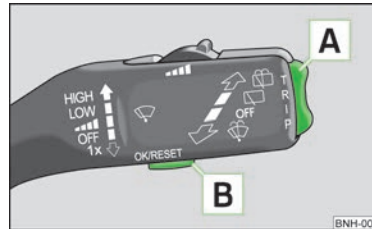

Fig. 5
Button **B** » Fig. 5 on page 12 is used to switch the memory.
The rocker switch **A** » Fig. 5 and the button **B** are located on the windscreen wiper lever.
- Press the button **B** » Fig. 5.
- Briefly press the rocker switch **A** » Fig. 5 up or down. This opens the individual functions of the multifunction display one after the other.
- Press the button **B** » Fig. 5 for longer.
If the outside temperature drops below +4 °C, a snow flake symbol (warning signal for ice on the road) appears before the temperature indicator and an audible signal will sound. After pressing the rocker switch **A** » Fig. 5 on page 12, the function which was shown last is indicated.
The driving time which has elapsed since the memory was last erased, appears in the display. If you want to measure the driving time from a particular moment in time on, at this moment, reset the memory by setting the button **B** » Fig. 5 on page 12 to zero.
If you wish to determine the average fuel consumption over a certain period of time, you must set the memory at the start of the new measurement to zero using the button **B** » Fig. 5 on page 12. After erasing the memory, no value appears in the display until you have driven approx. 300 m.
The distance travelled since the memory was last erased is shown in the display » page 12. If you want to measure the distance travelled from a particular moment in time on, at this moment, reset the memory by setting the button **B** » Fig. 5 on page 12 to zero.
The average speed since the memory was last erased is shown in the display in km/hour » page 12. To determine the average speed over a certain period of time, set the memory to zero at the start of the measurement using button **B** » Fig. 5 on page 12.
- With button **A** » Fig. 5 on page 12, choose the menu point **Warning against excessive speeds**.